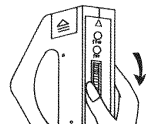

Fig. 5
- 3.3.1 With the Stud Detection face against the wall, hold the unit vertically as shown in Fig. 5 and turn the blue knob fully downwards.